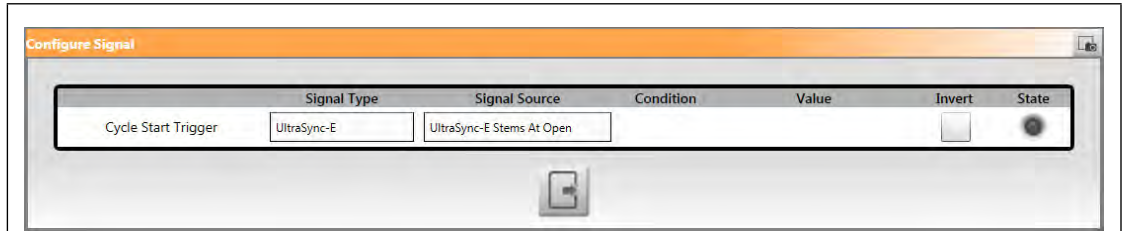

Figure 12-9 Configure Cycle Start Trigger Window
3. Touch the **Cycle Start Trigger** gear button. The Configure Signal dialog window shows (refer to Figure 12-9).